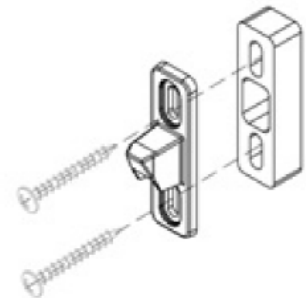

Figure 26
37. The box screen keeper (Item 31) must be installed with the screen spacer (Item 32; Figure 26). Attach the keeper using two screws (Item 43).